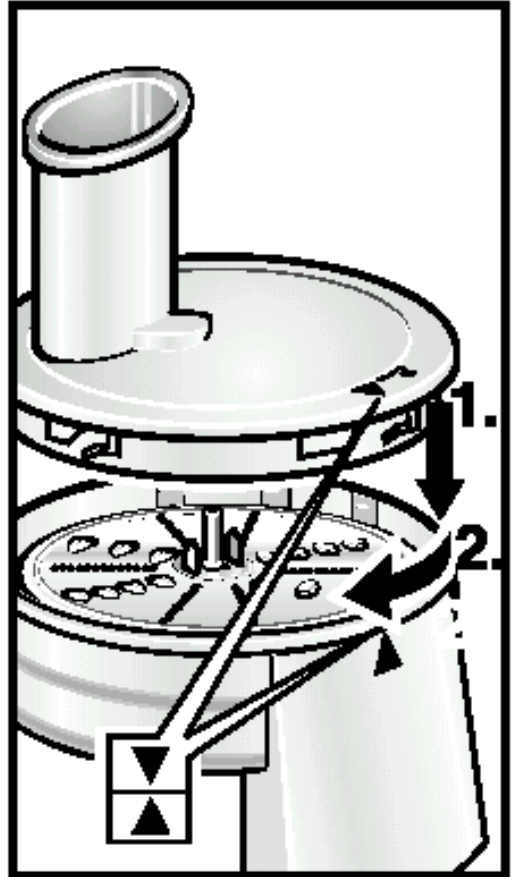

Figure 11.
3. Place cover on housing and turn counterclockwise until cover snaps into place and arrows are aligned, see figure 11.